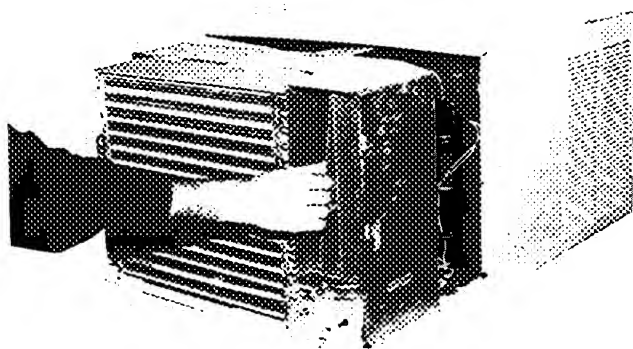

Fig. 18 — Disengaging Vertical Air Deflector
7. Carefully disengage one of the vertical air deflectors, allowing access to assist in removing air handling system assembly. See Fig. 18.